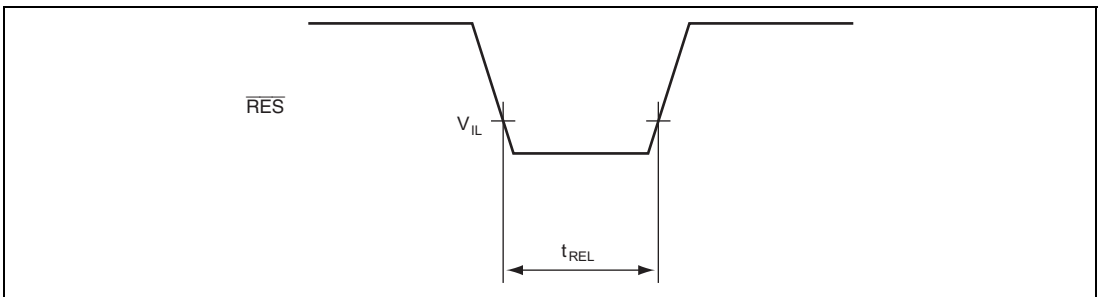

Figure 25.15 $\overline{\text{RES}}$ Low Width Timing
2. For details on the power-on reset characteristics, refer to table 25.16 and figure 25.15.